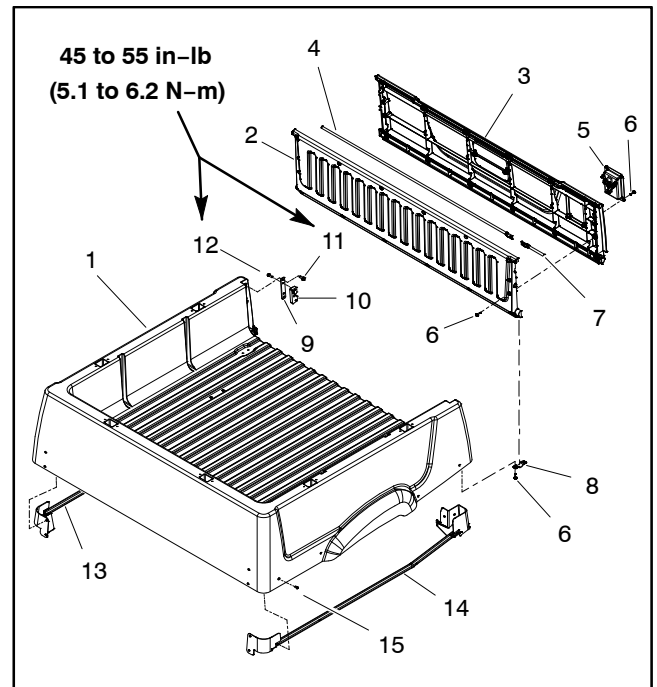

Figure 42
B. When installing tailgate latches, use torque specifications identified in Figure 42.